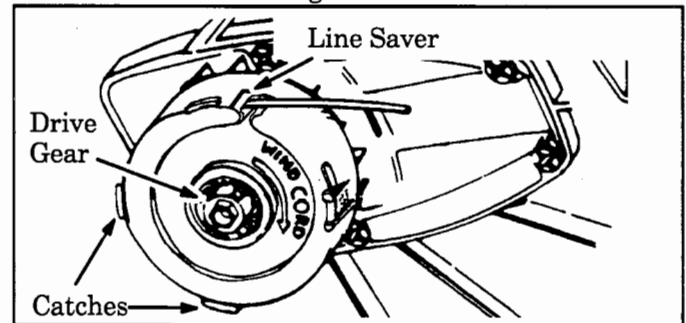

Figure 18
- Insert 3 to 4 inches of end of line (on the spool) through line saver in the hub. Figure 18.